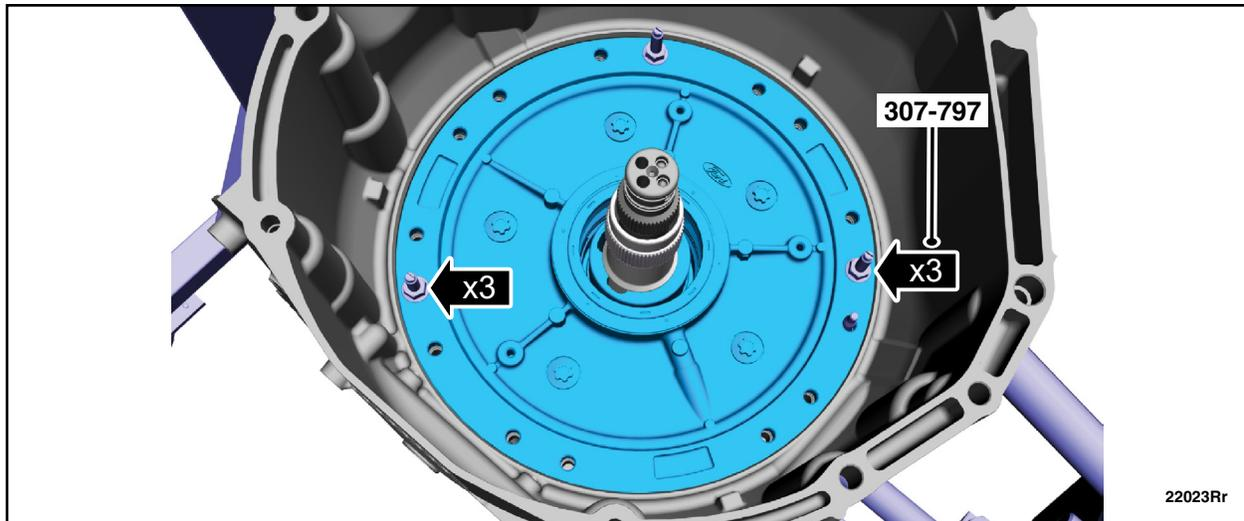

FIGURE 53
62. Install the Special Service Tool: 307-797 Installer, Alignment Studs (3) & Alignment Pin (All 10R) in the location shown, and tighten the nuts evenly to seat the front support assembly to the transmission case. See Figure 53.